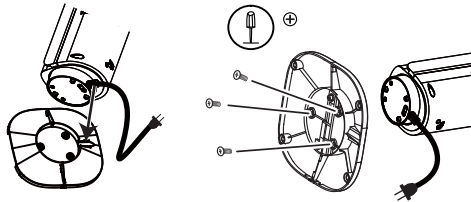

Figure 4
4. Align power cord to the slot on the top side of the base. (Figure 4)